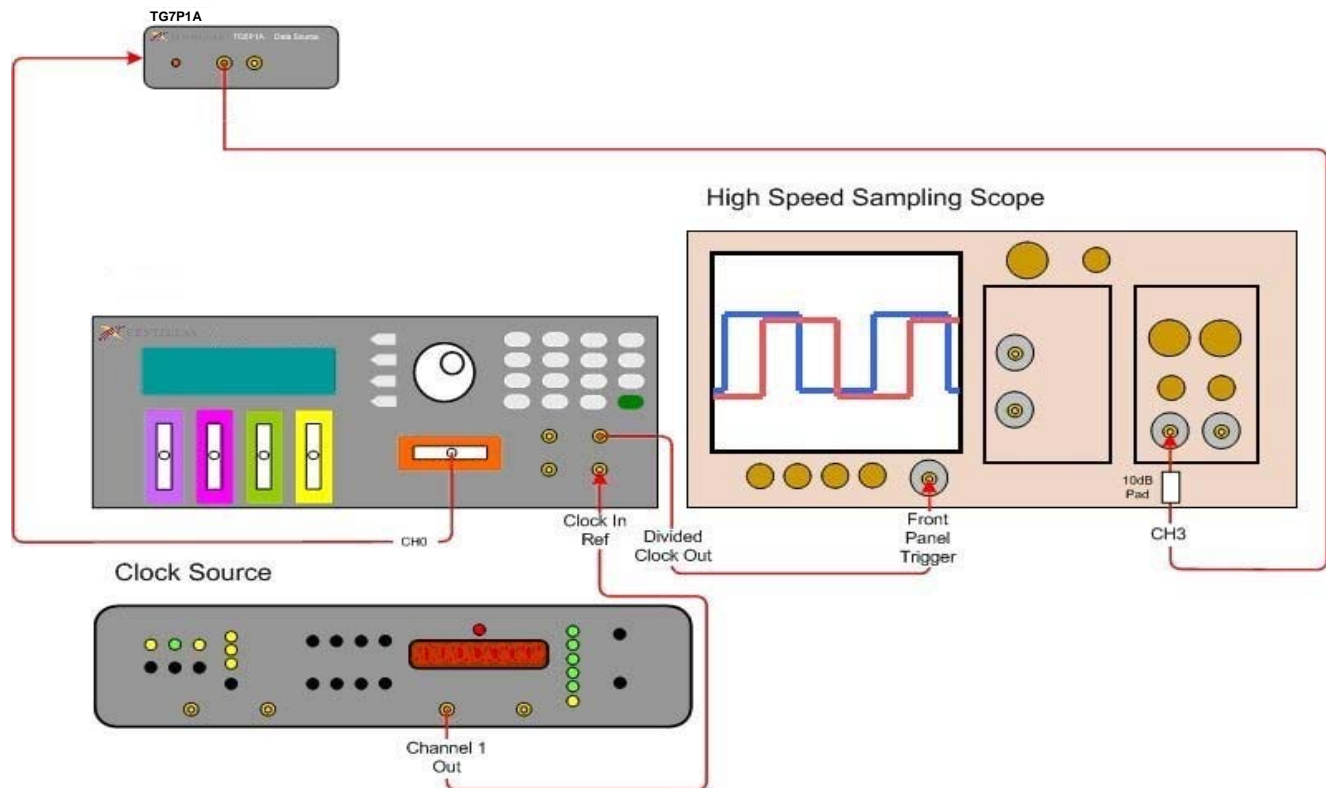

Figure 1. Installation Setup
3. Connect the PCB12500 to a clock source and high speed sampling scope as shown in Figure 1.